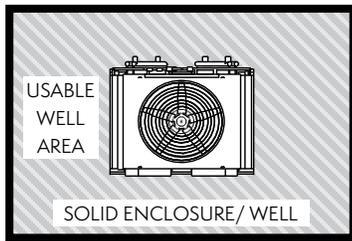

Figure 6 – Unit in Solid Enclosure
**#3. Downward Air Velocity** The downward air velocity must be kept below 400 FPM. Downward air velocity is the unit airflow divided by the usable well area, the space between the four sides of the unit and the walls (see the shaded portion of Figure 6). See the example calculation of the downward air velocity.